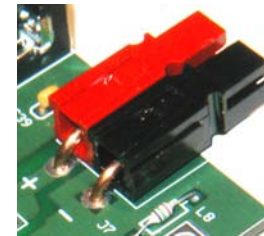

Figure 25. Installing J7.
- The Anderson power connector is held in place by two heavy copper wires soldered to the PCB (See Figure 25). Prepare and install the connector as described in the following steps.